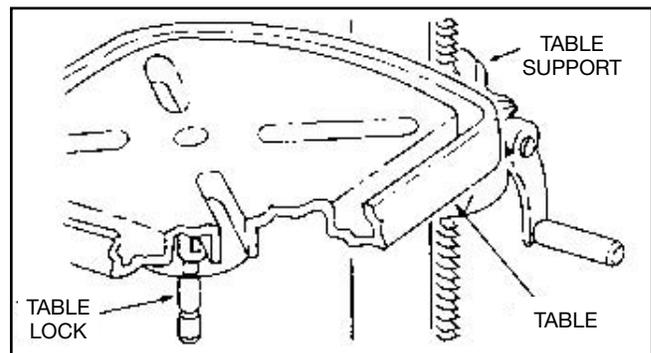

FIGURE 9
2. Remove protective covering from table and discard. Place table in table support and tighten table lock (located under table) by hand. See figure 9.